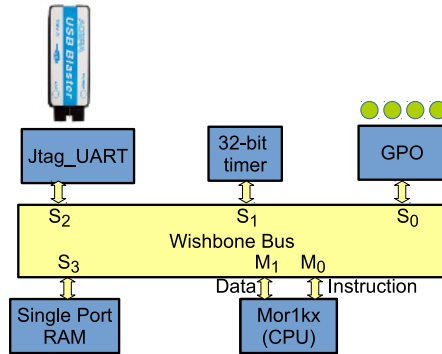

Figure 5.1: The schematic of desired SoC in this tutorial.
Figure 5.1 illustrates the desired hardware architecture in this tutorial. This architecture consists of:
7. A Clock source (not shown in Figure 5.1).
2. In parameter setting set `M` (master interfaces number) as 2 and `S` (slave interfaces number) as 4. These values are obtained from Figure 5.1. You can changed them later if you want to add/remove any IPs.